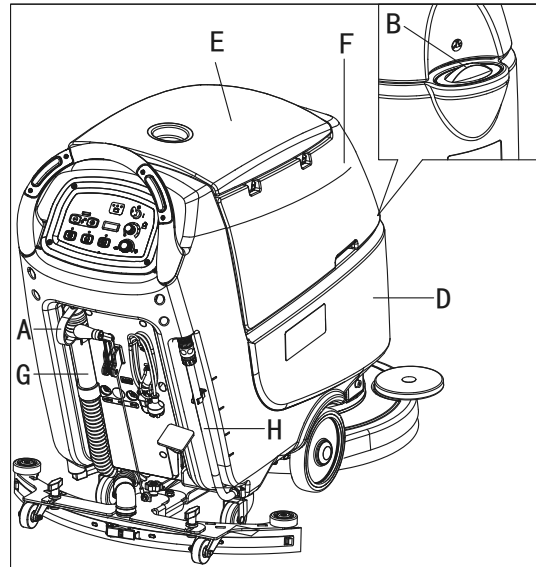

Figure 7
1. Open the filler neck (B, Figure.7).
2. (For machines without Chemical Mixing System) Use the front filler neck (B) and the rear filler neck (H) to fill the tank (D) with a solution suitable for the work to be performed. Refill to the reference mark "1" of the level check hose (H). Always follow the dilution instructions on the label of the chemical product used to prepare the solution. The solution temperature must not exceed +104°F (+40°C).